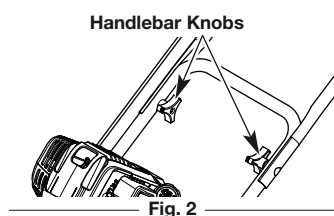

Fig. 2
1. Loosen the two knobs on the inside of the handlebars (Fig. 2).